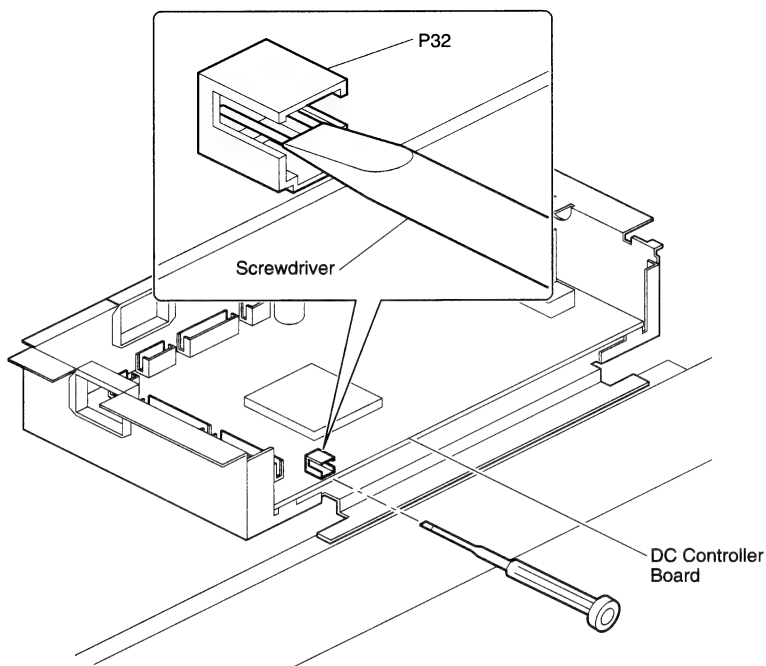

Figure 7 Generating a Service Test Page With I/O Board Removed
3. Using a paper clip or jeweler's screwdriver, jumper the two pins at connector P32. (Refer to Figure 7.)